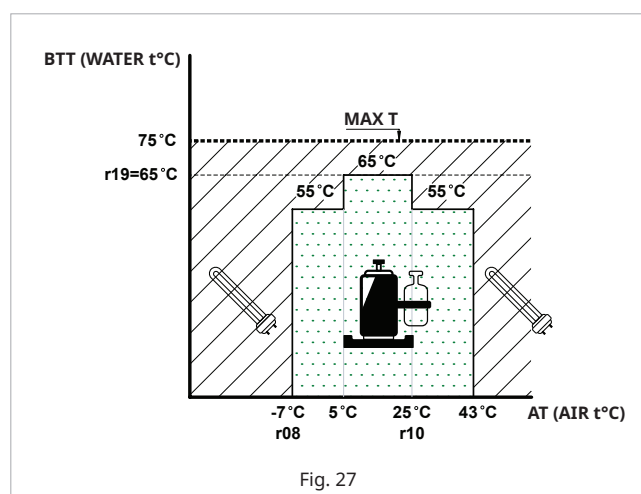
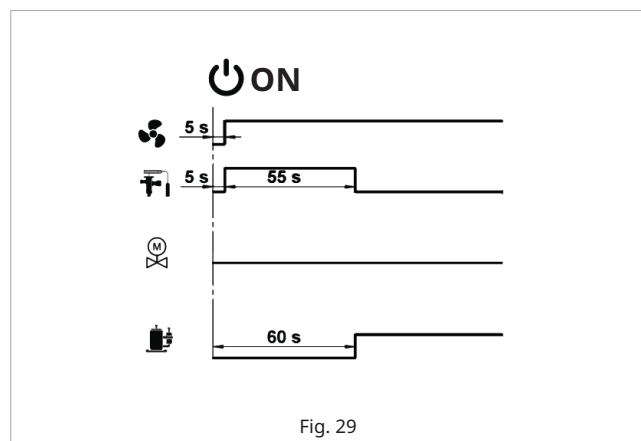

Fig. 27
Fig. 29
- If r13 = 5 – Compressor and E-heater work simultaneously. Compressor stops at the r19(default value) and E-Heater runs alone till water reaches MAX T according to Figure 27. In this case if there is set timer, it is valid
9.1 Working range and temperatures (Fig.27)
The maximum achievable water temperature by heat pump only, depends on outside air inlet temperature and could be seen on Fig. 27
If the set temperature (via control display) is more than the achievable one as per Fig. 27, the E-heater will be switched ON automatically to reach it.
9.2 Starting procedure (Fig.29)
The unit start to heat when $t_{02} < T_{set}$. Unit starts according to Fig. 29.
In this mode compressor starts to work according Fig. 29 and after r_{06} (default $r_{06} = 200\text{min.}$) time if the target temperature is not reached, heating element starts too. Heating element and compressor work according to Fig.27. In this mode compressor is driven by temperature t_{02} , and the heating element by t_{03} .
This mode is activated when the  is pushed. The e-heater (or boiler if selected (see 10.5)) starts to work simultaneously with the compressor all the time till T_{set} is reached. In this case compressor also works according Fig.27.
When boost function is activated compressor and heating element (or boiler if selected (see 10.5)) work simultaneous to reach Tset, but corresponding to Fig.27.